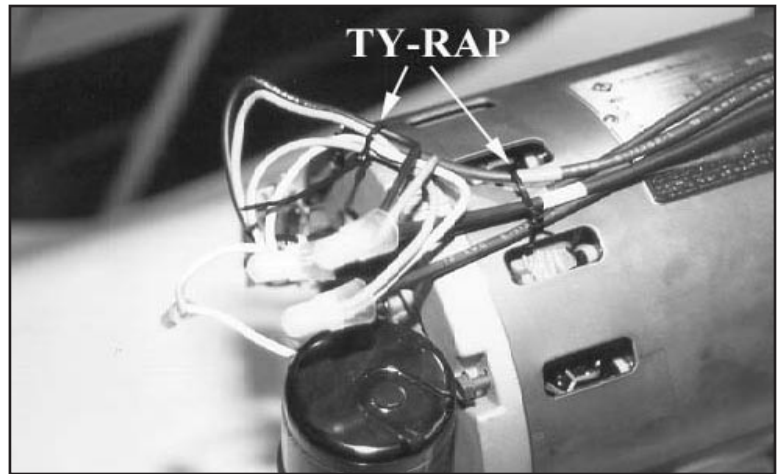

Figure X-24 Motor wire hold down method and location
- P. Strap the wires down using two ty-raps (P/ N:178-003B). (Fig. X-24)**